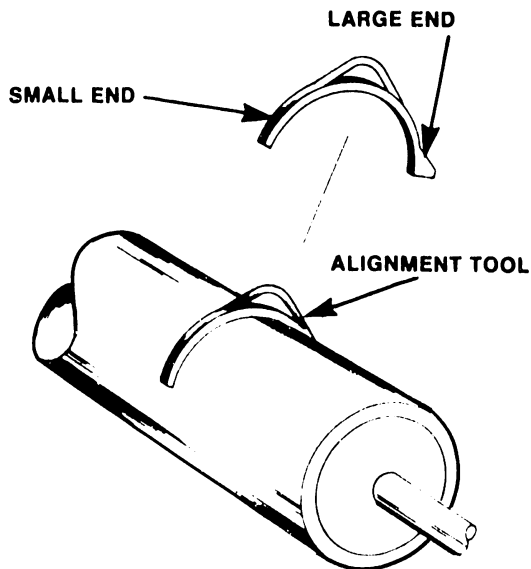

FIGURE 5-4 ALIGNMENT TOOL USING SMALL END
5. Set small end of the hammer gauge (WL #580-0225) forward on the platen in line with the alignment disk (Fig. 5-4).
9. Set the small end of the alignment tool (WL #580-0225) forward on the platen in line with the alignment disk (Fig. 5-4).